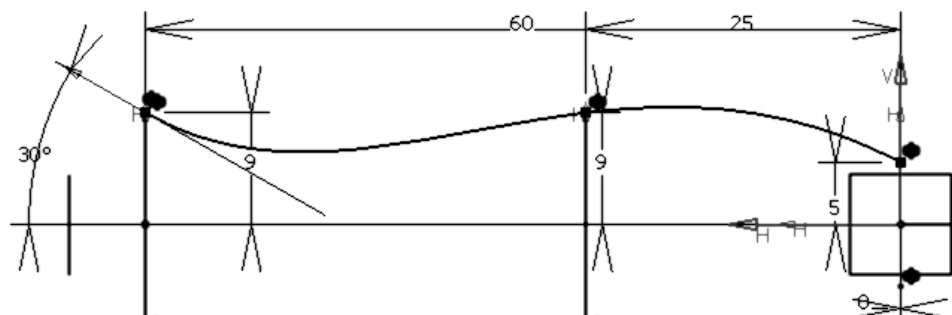

Fig. 17
For the 3th guide curve, select the horizontal center plane parallel to the plane (XY) and create the following sketch: tangent at 30°. You will name this sketch "**Guide A3**" (fig. 17):